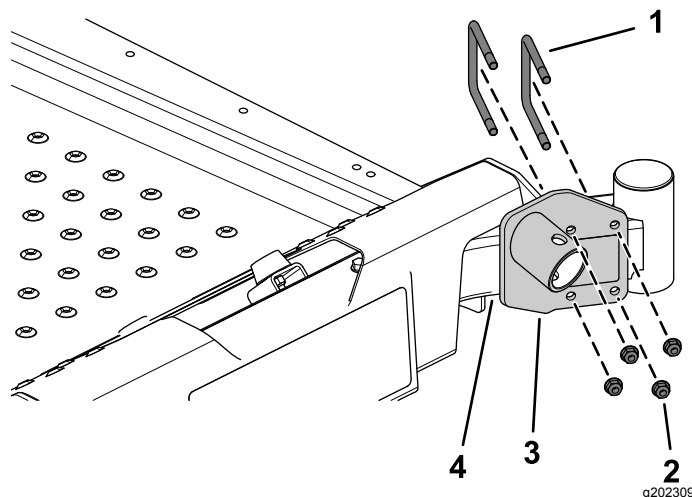

Figure 1
3. Secure the jack mount to the left front axle-tube using 2 U-bolts and 4 flange nuts (**Figure 1**).